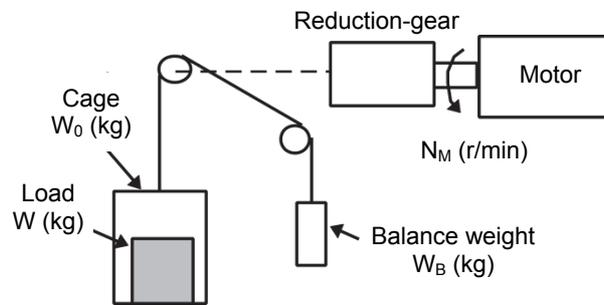
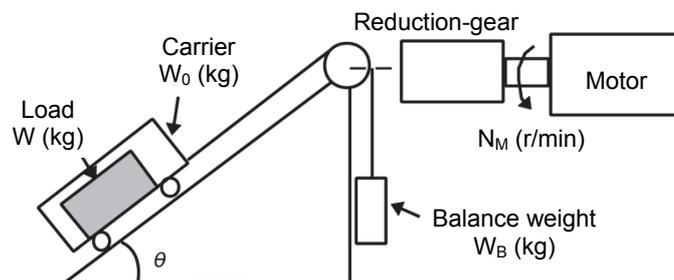

Figure 10.3-2 Vertical Lift Load
Figure 10.3-3 Inclined Lift Load
A simplified mechanical configuration is assumed as shown in Figure 10.3-2. If the mass of the cage is W_0 (kg), the load is W (kg), and the balance weight is W_B (kg), then the forces F (N) required for lifting the load up and down are expressed as follows:
If the incline angle is θ , and the friction coefficient is μ , as shown in Figure 10.3-2, the driving force F (N) is expressed as follows:
The moment of inertia J ($\text{kg} \cdot \text{m}^2$) of the loads connected with a rope as shown in Figure 10.3-2 and Figure 10.3-3 is calculated with the following equation using the mass of all moving objects, although the motion directions of those loads are different.